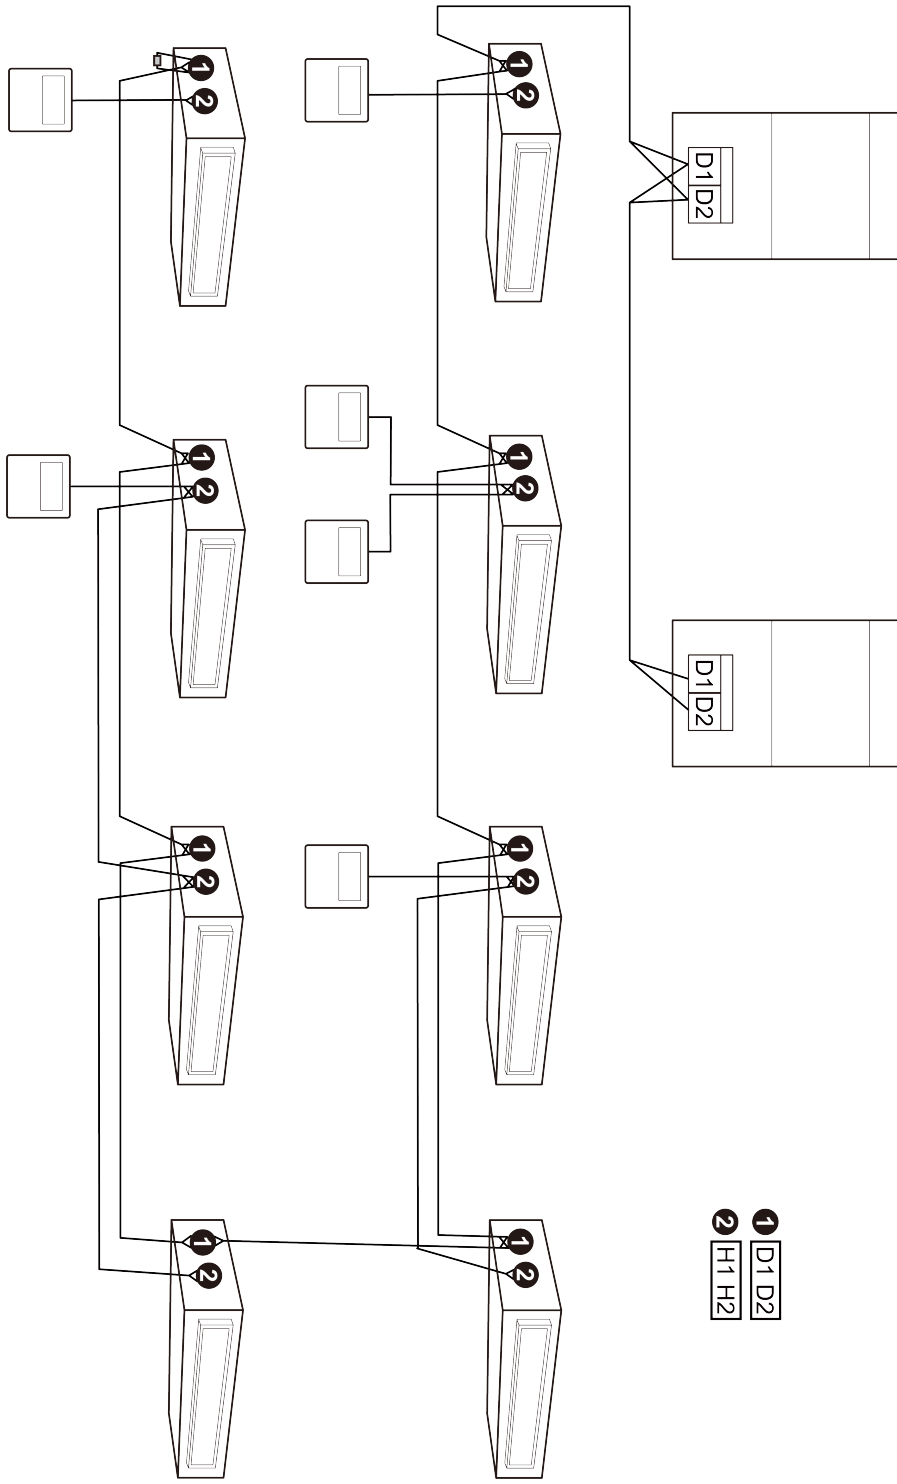

Fig.5.5
- (1) Communication wire of indoor unit and outdoor unit (or indoor unit) is connected to D1, D2.
- (2) Wired controller is connected to H1, H2.
- (3) One indoor unit can connect two wired controllers that must be set as master one and slave one.
- (4) One wired controller can control 16 indoor units in maximum at the same time. (as shown in Fig.5.5)